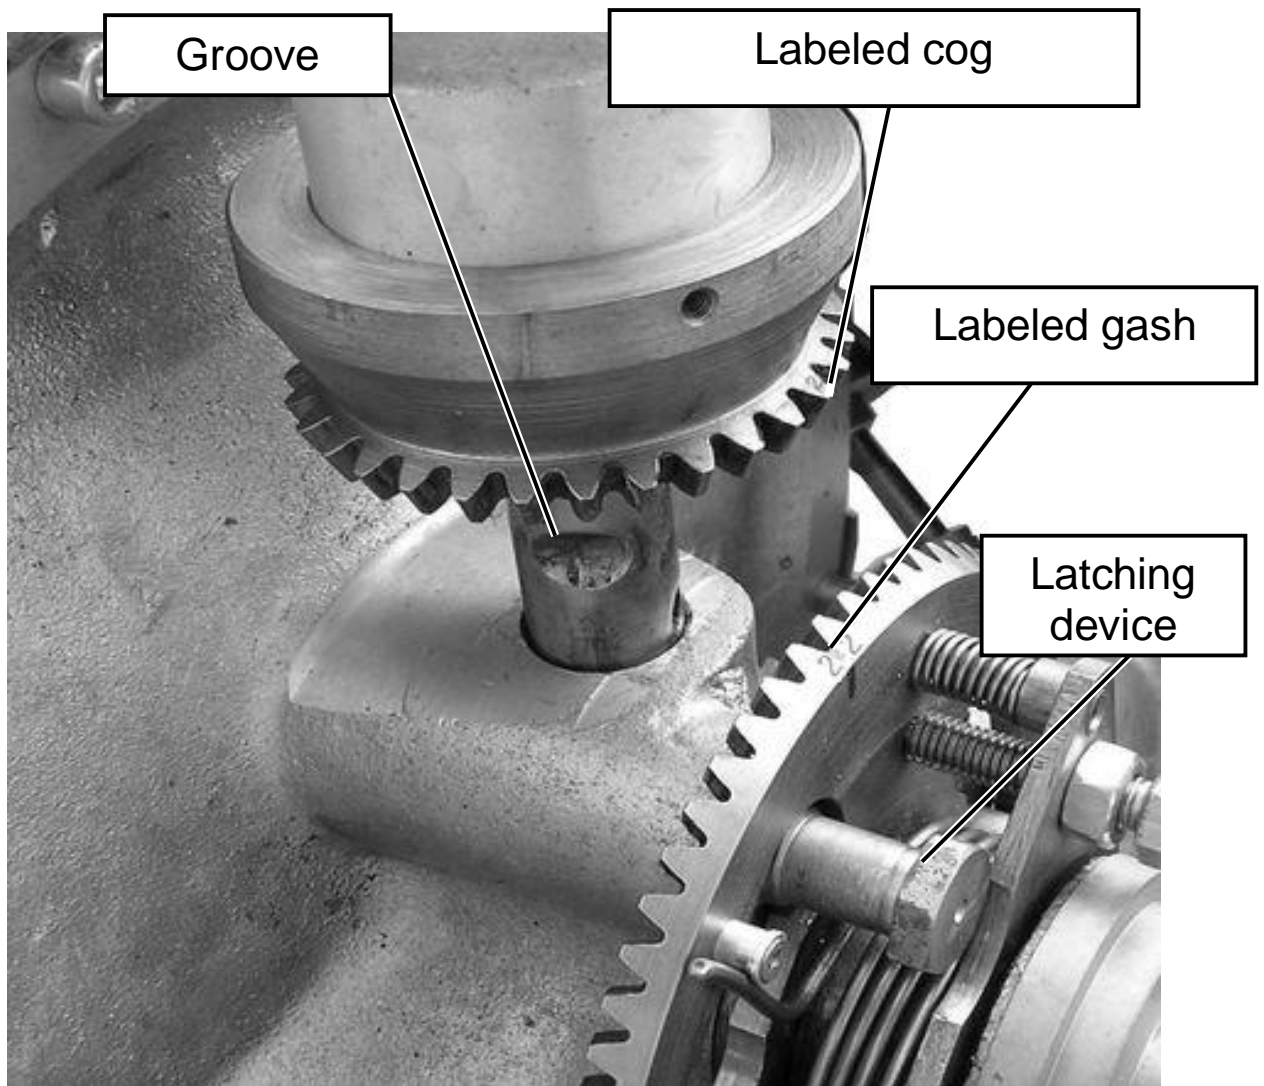

Fig. 3
5. To connect the lower end of wind vane cable with the lever in the bottom of the tower, which provides the cable tension with force 40 – 50 kg. Pulling the lever make sure that section (1) is securely pressed to brake plate (2).
7. To insert the blades' axels into the hub, and fix them by latching devices (3) (fig. 3).